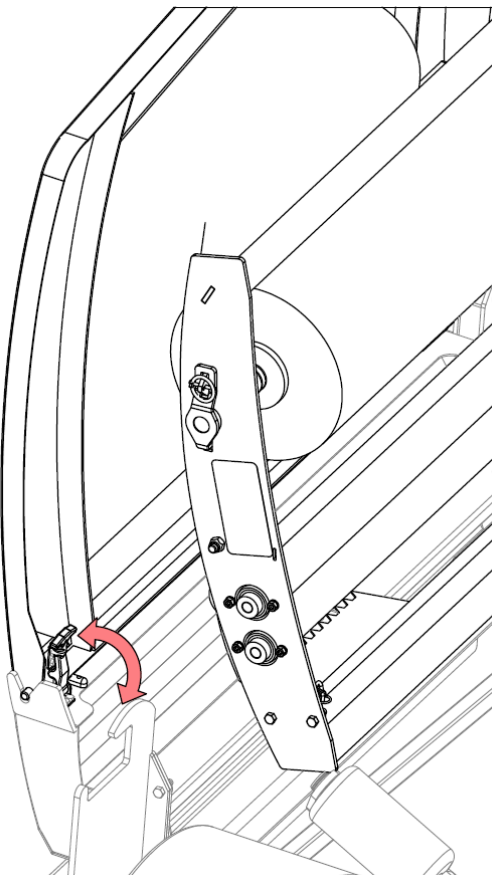

Fig.2
3. Unfasten rubber latch from inner rear of left safety guard. See Fig.2.